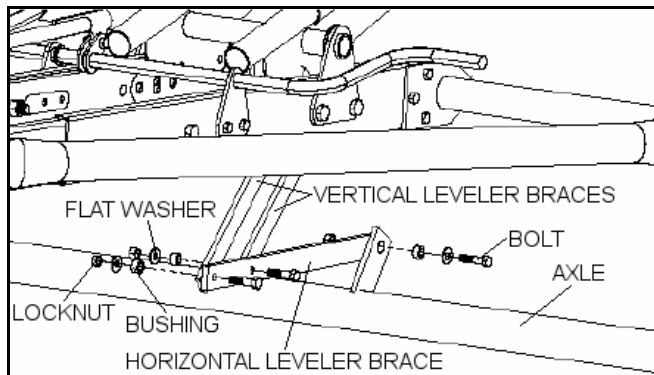

Figure 3.32
7. Install horizontal leveler brace using three 7/16" x 1-1/2" bolts, 7/16" washers, bushings and locknuts. The 2 holes closest together bolt to the 2 leveler connectors. The single hole at the other end will bolt to the tab on axle (see Figure 3.32).